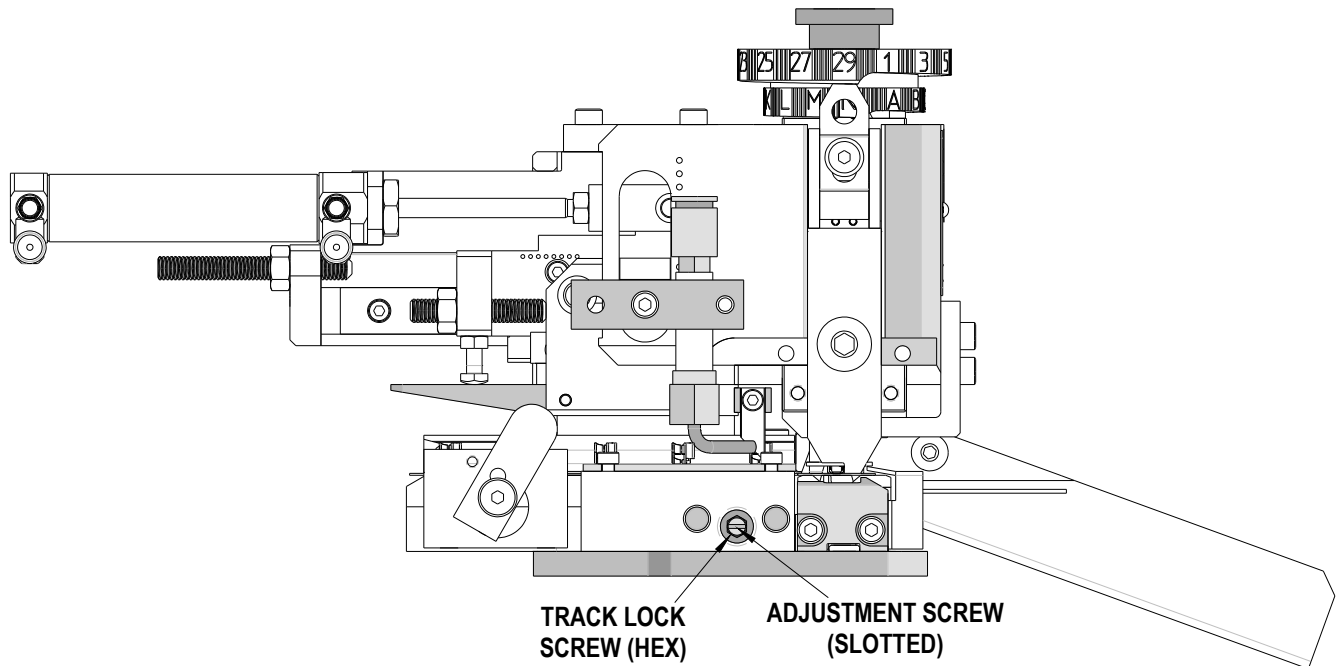

Figure 5
2. To adjust the track position, loosen the track lock screw. See Figure 5.